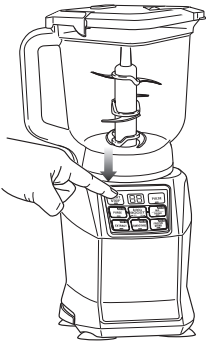

Fig. 6
- 11 Select the speed or Auto-iQ program that best suits your needs. The Auto-iQ program will stop the appliance automatically at the end of the program. **(Fig. 6)**